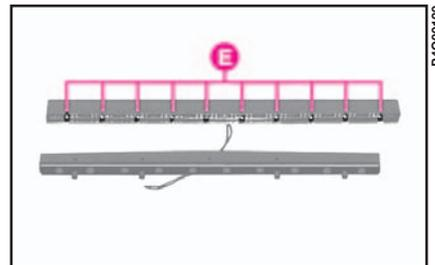

fig. 34
4) change the burnt bulb **E**-fig. 34. Press into place;